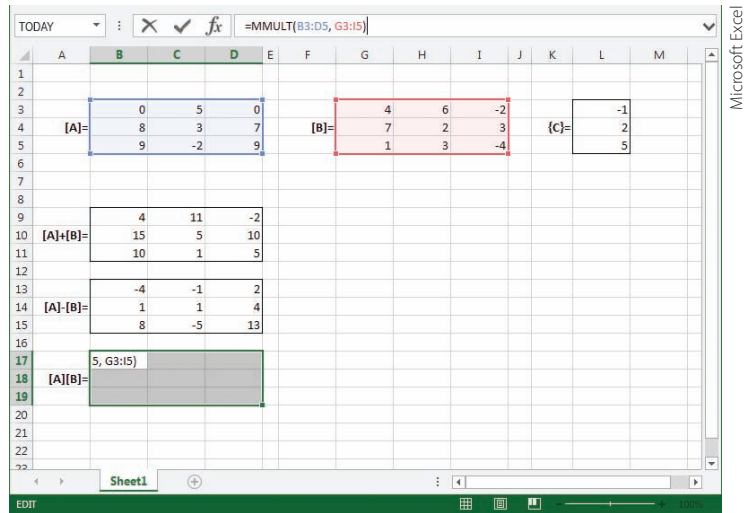

FIGURE 14.39
4. To carry out the matrix multiplication, first type $[A][B] =$ in cell A18, as shown in Figure 14.39. Then pick cells B17 through D19.